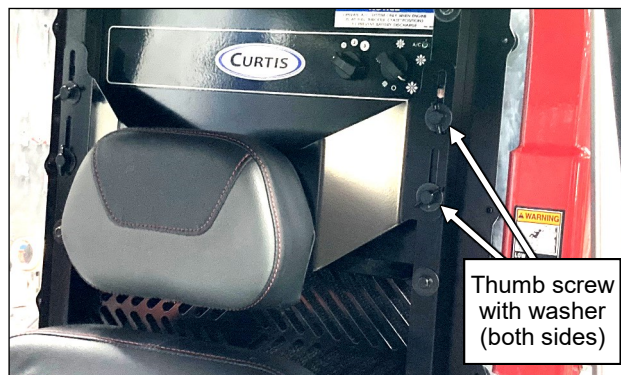

Fig. 10.11 (Headrest mount)
- 10.11 See fig. 10.11. Attach the headrest mount assembly (from step 2.4) to the rear frame with thumb screws and fender washers. Adjust the height of the headrest as desired, then tighten the thumb screws finger tight.